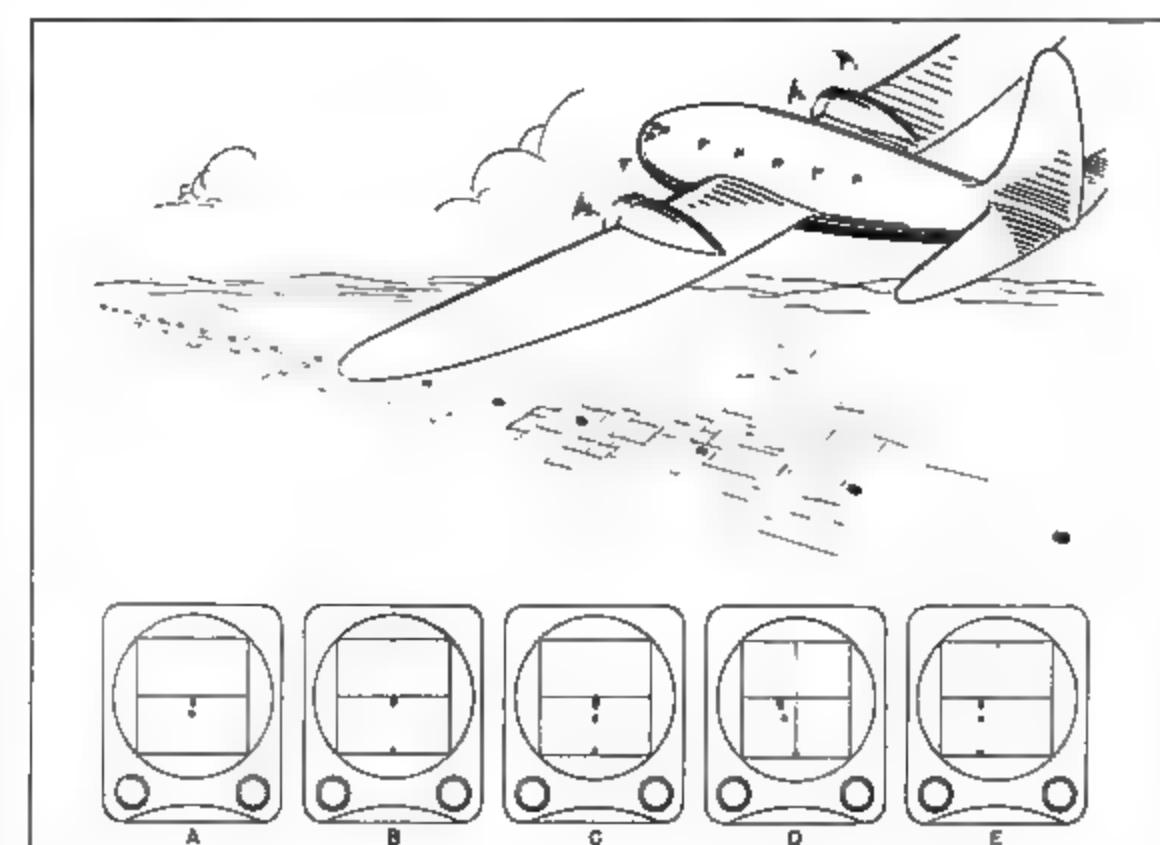

Fig. 2. Locations of dots on indicator show pilot his relation to course just as would visible beacon lights in clear weather.
of latter's lowest mechanical advantage. Fig. 2. Closeup showing main actuating cylinder (A) and dashpot bumper (D) for cushioning wheel. (AVIATION staff photos by E. J. Bullock.)
Closeups of the landing gear mechanisms are shown in Figs. 2 and 3.
Fig. 2 shows how the system indicates that the pilot is on or off course when flying cross-country on instruments. Actually, the pilot follows a line of radio beacons made visible on the face of his indicator. Indications A and B show that the pilot is on course. Indication C depicts a similar picture at a higher altitude. And Indication D shows that the aircraft is over the course, but not properly headed to stay on it. The pilot simply flies his aircraft so that the row of transmitters disappears along the vertical center-line of his screen. Indication E shows the pilot headed parallel to the course, but flying to one side of it.